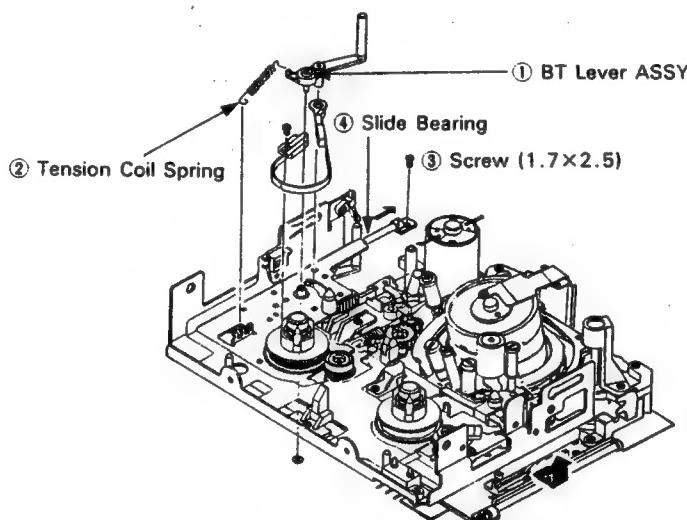

Fig. 2-11.
(1) Removal procedure (See Fig. 2-11, 12.)
- 1) Insert pin ⑧ of BT lever ASSY ① into hole ⑦ of BT band ASSY ⑯.
- 2) Insert pin ⑨ into shaft ⑩ of the reel chassis and pin ⑧ into slot ⑪, respectively.
- 3) Secure pin ⑨ of BT lever ASSY ① with Washer ⑤ on the rear of the chassis.
- 4) Secure BT band ASSY ⑯ with screw ⑫.
- 6) Install tension coil spring ②, referring to Fig. 2-11.